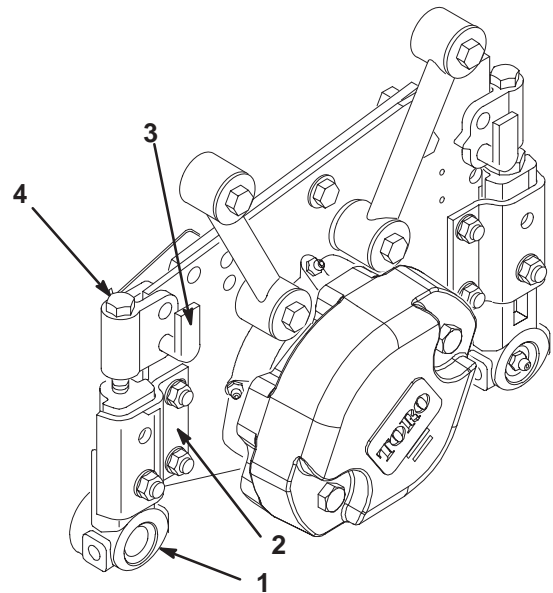

Figure 1
1. Remove 2 locknuts securing each angle bracket to cutting unit (Fig. 1).
2. Remove height-of-cut pins (Fig. 1).
3. Insert smaller diameter shaft end of roller into white bushing in roller bracket (Fig. 1), making sure flanged end of nylon bushing faces inside toward roller. **Hex of roller bracket must mate with hex of adjustment nut.**